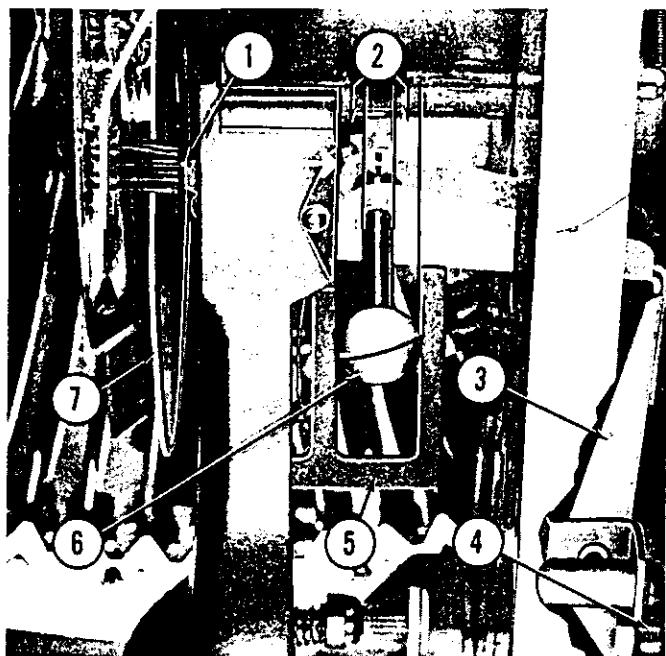

Fig. 89. TONE ARM LATCH BRACKET CLEARANCE
t. Tone Arm Latch Bracket Clearance. (Fig. 89)
When the tone arm is released for compliance with the record grooves, the clearance (Item 2, Fig. 89) should be equal on both sides of the feed-in adjusting screw (Item 6). Adjustment may be accomplished as follows:
(1) Advance the cycle of the record changer only until the turntable clamps have actuated, and then turn off the power.
(2) Operate the record clamp manually by pulling back on the record clamp plate, and clamp record disc X42226, face to the rear, on the turntable.
(3) Manually advance the cycle of the record changer by turning the motor shaft counter-clockwise until the tone arm is completely released for compliance with the record grooves. The tone arm latch bracket should be entirely free from the feed-in adjusting screw as shown in Figure 89.